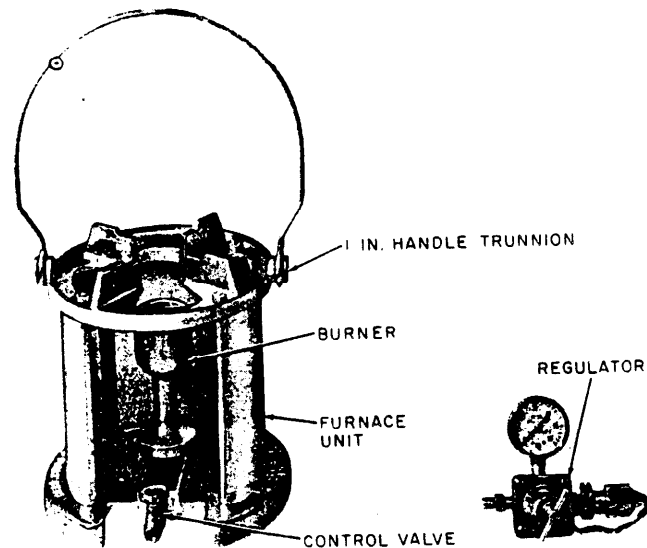

Fig. 1 - D Propane Furnace
- 2.01 The D propane furnace consists of a burner, furnace unit (includes handle, top, body, and base), regulator (includes regulator, gauge, and dust cap), and a control valve. The entire unit weighs about 15 pounds. Figure 1 illustrates the D propane furnace.